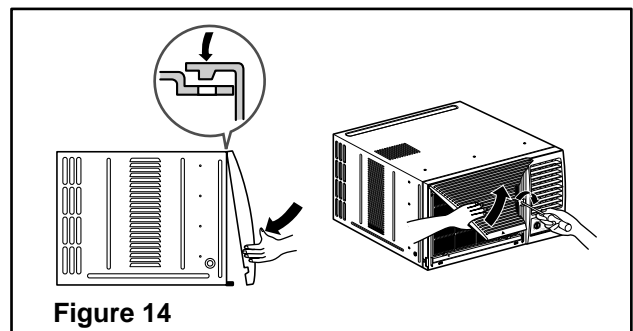

Figure 14
11. Lift the inlet grille and secure it with a screw (Type A) through the front grille. (See Fig. 14)